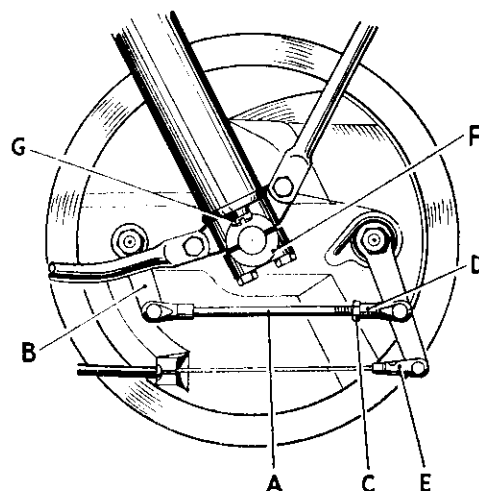

FIG. 26. Front wheel mounting, showing the brake linkage. (Lightning, Firebird Scrambler and Spitfire Mk. IV).
Remove the link rod (A) Fig. 26 coupling the two brake cam levers, for which purpose the pivot pins and split pins must first be extracted.
Uncouple the brake cable by withdrawing the pivot pin and split pin from the clevis (E) at the cam lever (Fig. 26).